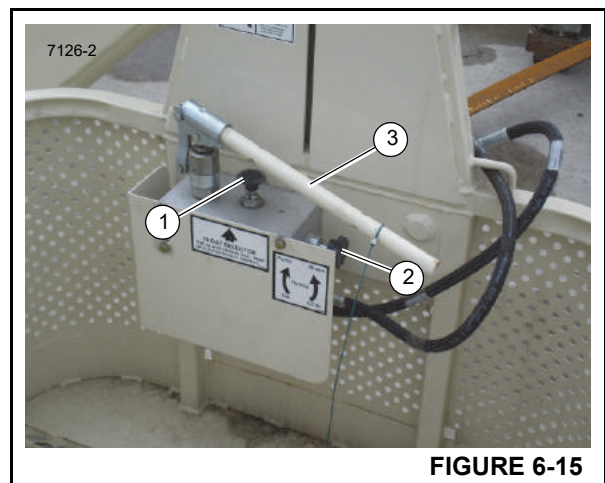

FIGURE 6-15
1. If the platform yoke is raised higher than required during installation, it can be lowered by *SLOWLY* pulling up on the float selector (1, Figure 6-15). Use caution when lowering the yoke in this manner. Pulling the float selector (1) out to fast and to far will lower the yoke at a very fast rate.
1. Verify the float selector (1, Figure 6-15) is positioned to the raised/up position and the brake selector (2) is in the CW (clockwise) position. This allows the platform to swing freely as the platform is raised to the work location.
- After the platform is raised to the working position; rotate the brake selector (2, Figure 6-15) (counterclockwise) position to lock the brake.
Rotate the brake selector (2, Figure 6-15) to the CCW (counterclockwise) brake position **immediately** after raising the yoke assembly to the proper height (step 2 above). The brake selector must be in the *LOCK* position before continuing or using the platform during normal operation.
NOTE: The platform hand pump (3, Figure 6-15) should not be used when the crane is in operation. The hand pump is to be used *only* when installing the yoke to the boom or jib tip.